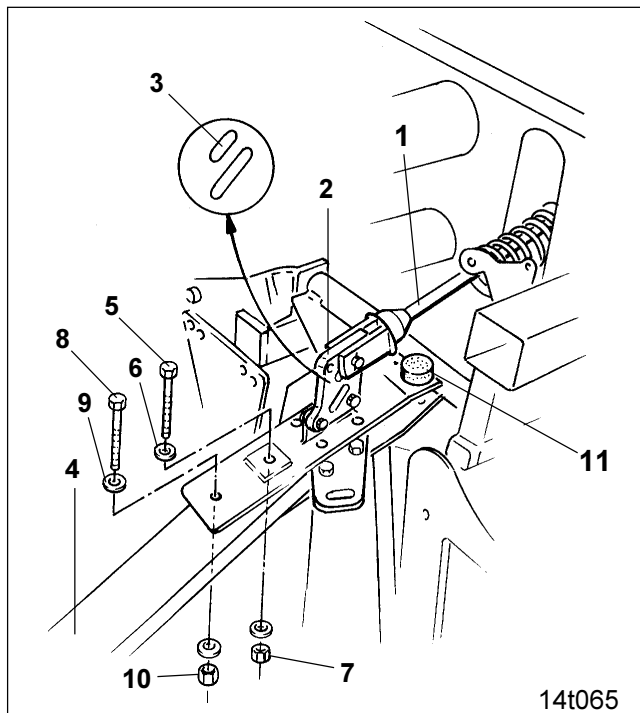
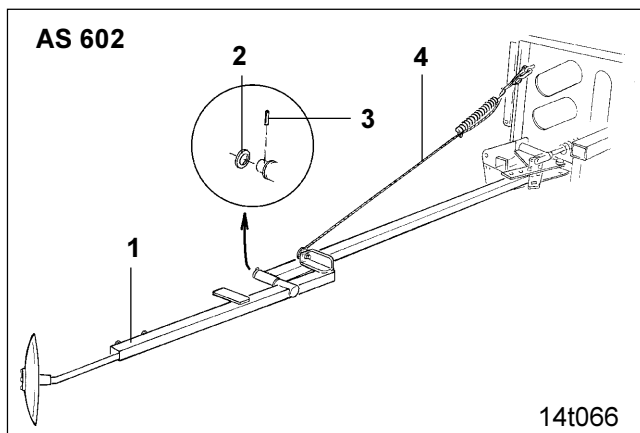

Fig. 12.5
Fig. 12.6
Affix the hydraulic ram (Fig. 12.5/1) on the bracket (Fig. 12.5/2) in the short slotted hole (Fig. 12.5/3). If necessary re-bolt the bracket (Fig. 12.5/2).
Bolt on the track marker arm (Fig. 12.5/4) by using:
- one hex. bolt M6 x 90, 8.8 DIN 931 (Fig. 12.5/5),
- two washers 6,4 x 18 x 1,6 DIN 9021 (Fig. 12.5/6) and
- one lock nut M6, 8 DIN 980V (Fig. 12.5/7).
- one hex bolt M14 x 100, 8.8 DIN 931 (Fig. 12.5/8),
- two tensioning washers 14 DIN 6796 (Fig. 12.5/9) and
- one lock nut M14, 8 DIN 980V (Fig. 12.5/10).
Affix track marker pendulum tube (Fig. 12.6/1) on the track marker arm and secure with washer 36 x 50 x 2 (Fig. 12.6/2) and expansion pin 10 x 50 DIN 1481 (Fig. 12.6/3).
Affix wire cable (Fig. 12.6/4) by using a tensioning spring.
The buffer blocks (Fig. 12.5/11) may never be removed and when worn must be replaced!
Affix the track marker arm as illustrated in figures (Fig. 12.5 and Fig. 12.6).